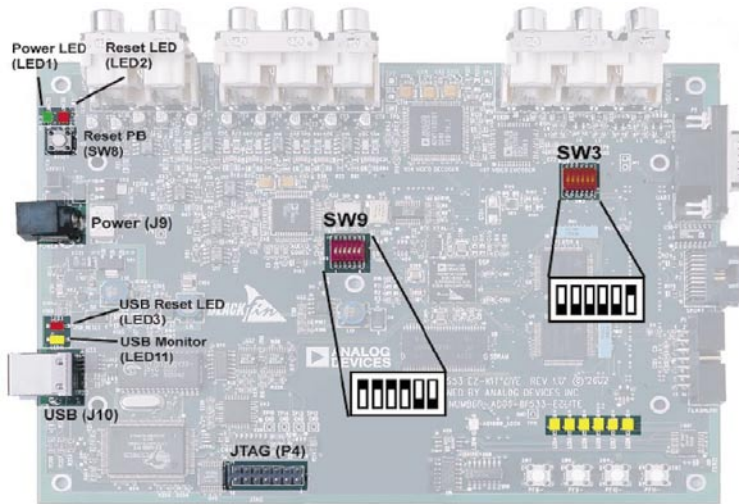

Figure 5. Switch Default Configuration
- Configure the switches as shown in Figure 5. Once everything is connected and you see the LED11 (USB Monitor) switched, launch VisualDSP++.